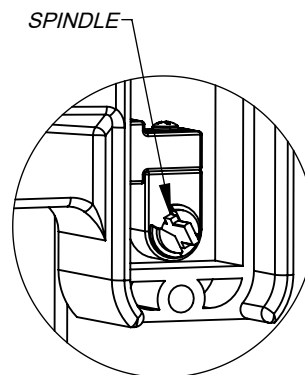
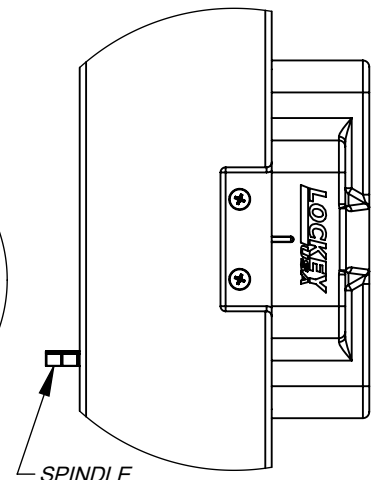

Figure 10
Figure 11
1) Fully insert the spindle into the spindle holes in the Latch Cam Assembly, Adapter Housing, and gate (Figure 10). The spindle should protrude from the inside surface of the gate by about 3/4" for the 2835 Single-Sided Combination, or 1/2" for the 2835 Double-Sided Combination (Figure 11). See Figure 12 and Table 1 to determine the correct cut mark on the spindle based on your gate frame size and 2835 type being used. **If the spindle sticks out too far, the latch will bind or seize. If the spindle does not protrude far enough, it will fail to engage with the inside handle.** Remove the spindle, cut it to the appropriate length, and reinsert it in the proper orientation.